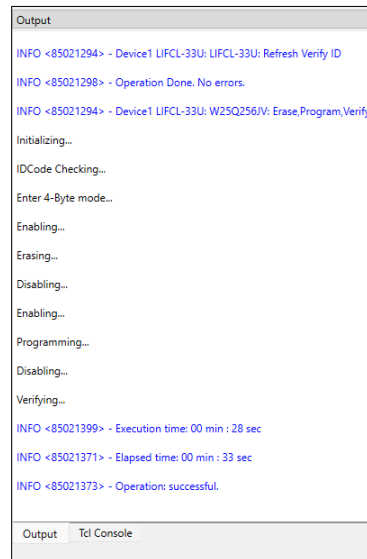

Figure 7.8. Message on Successful Programming
- Verify that the programming status displays *Operation successful* in the output window, as shown in Figure 7.8. To activate the flashed bitstream, power cycle the device.